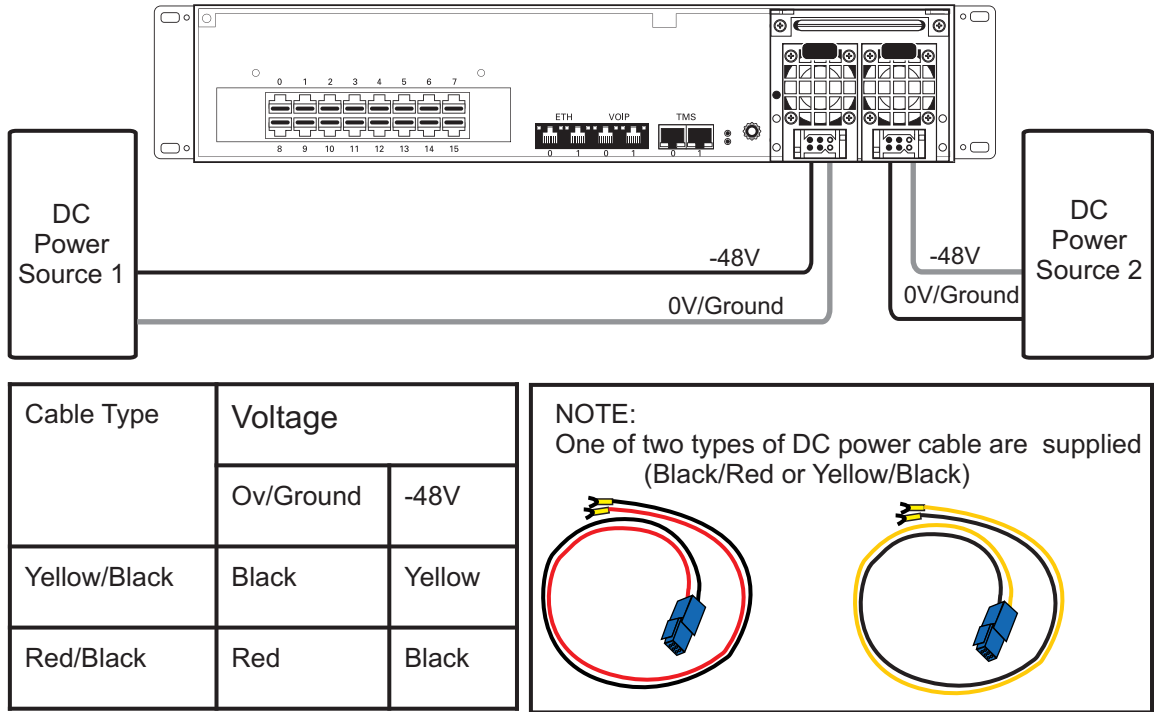

Figure 2.10 3200 Series Gateway DC Wiring Diagram
1. Connect one DC cable, supplied with the 3200 series gateway, as shown in Figure 2.10 on page 27, to the rear of the unit.
**Note** Two types of cable with different coloring are available. Refer to Figure 2.10 on page 27 for the appropriate wiring information.